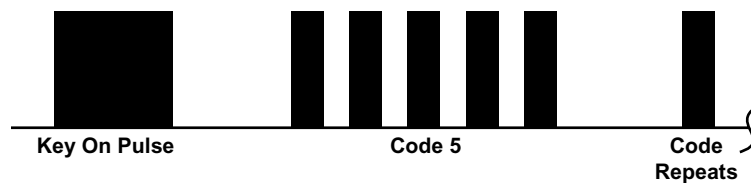

Figure 8-19 Honda engine Code Type 02
- Type 02, see Figure 8-19 and Table 8-3 on page 72